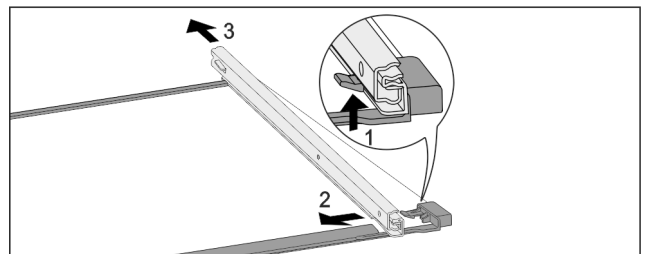

Fig. 157 Glass shelf with rails
- ▶ Push up front click-in hooks. Fig. 157 (1)
- ▶ Move the pull-out rails to the side Fig. 157 (2) and to the rear Fig. 157 (3).